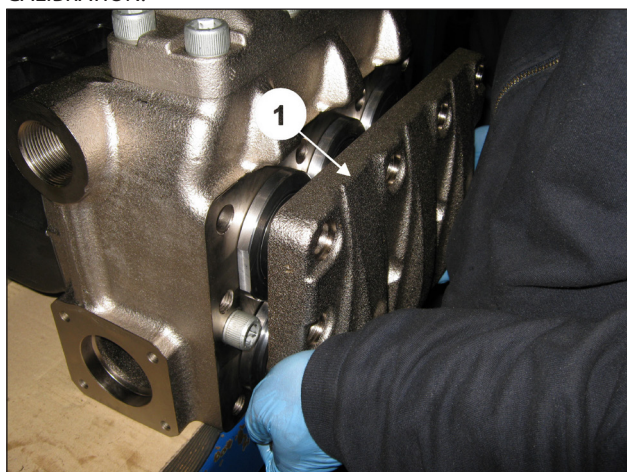
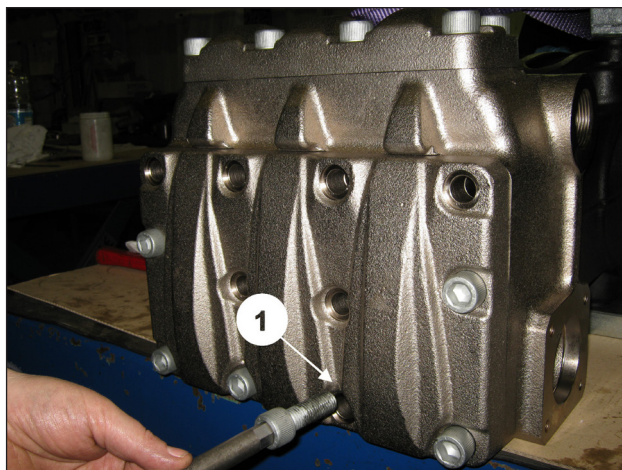

Fig. 140
Fig. 141
After having completed the assembly of the suction valve units and of the sleeves containing seals fit the suction valves cover (pos. ①, Fig. 140) and screw in the 6 M16x45 screws (pos. ①, Fig. 141) as indicated in chapter 3 SCREW TIGHTENING CALIBRATION.